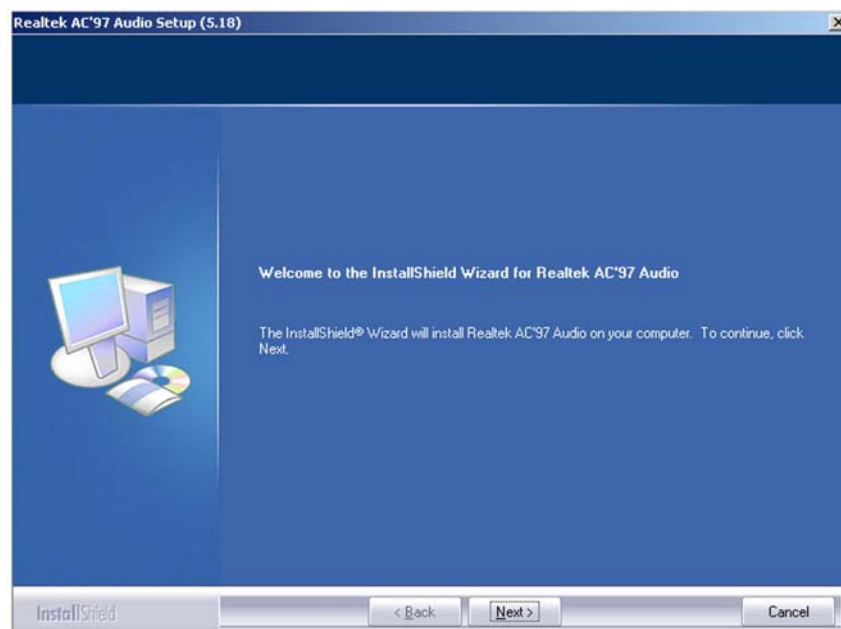
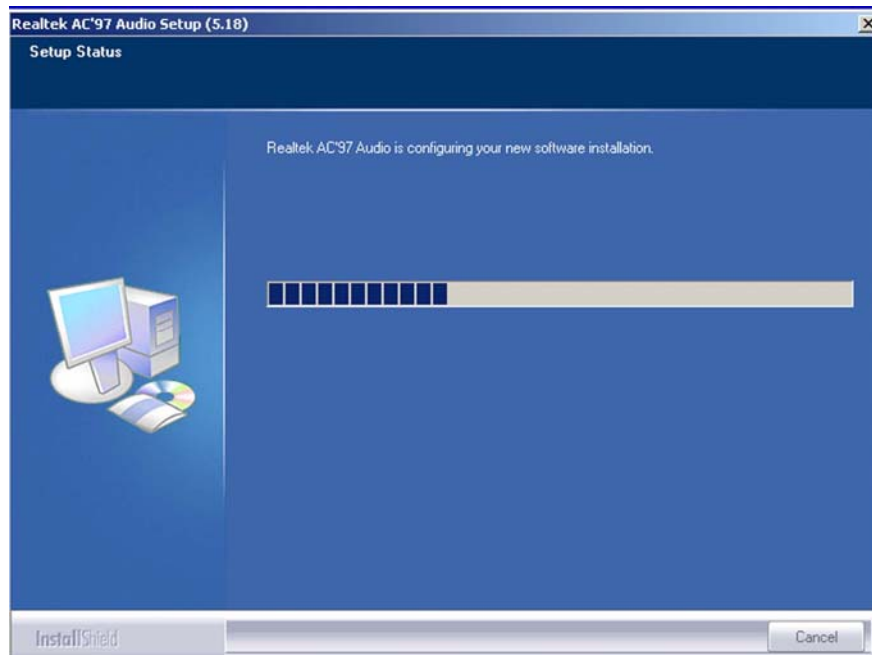

Figure 6-22: AC`97 Audio Driver Welcome Screen
Figure 6-23: AC'97 Audio Driver Software Configuration
Step 6: After the install shield is prepared, the welcome screen shown in Figure 6-22 appears. To continue the installation process, click the **“NEXT”** button. The install shield starts to configure the new software as shown in Figure 6-23.